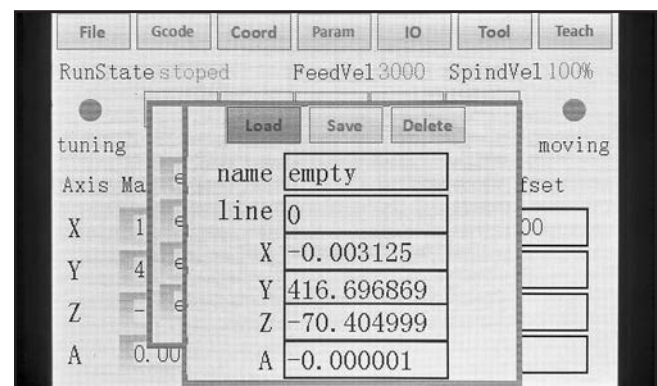

Figure 59. Example of breakpoint settings.
4. Press "Enter" button to open breakpoint settings, then input breakpoint save name, G-code line number, and coordinates (see **Figure 59**).